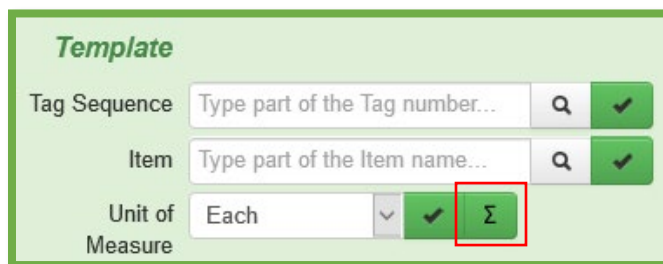

Figure 7: Auto-Sum Button in Packages Template
Users will now have a new button within the packages template that will allow for all-new package quantities to be “Auto-Summed” from the source package. This button, shown in **Figure 7**, functions exactly as the Auto-Sum button does for each individual new package. Meaning, if a licensee has one source package of one hundred (100) cookies, and that licensee wanted to create ten (10) delivery packages of ten (10) cookies each. Then the source package would be the same for all ten (10) new packages. The quantity removed from the source package would be set to ten (10) each. The auto sum button, when selected, would auto-populate each new package with ten (10) cookies for the quantity.